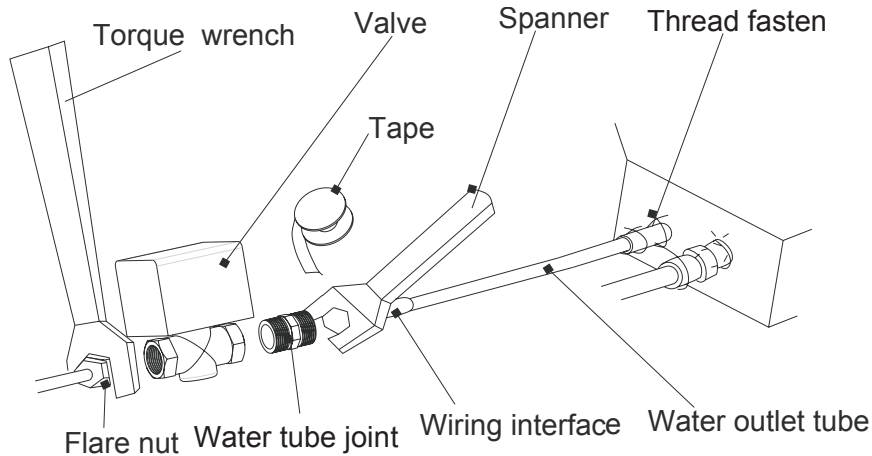

Fig.16
- (1) The installation of the motorized valve should be done according as Fig.16. Firstly connect one end of the tube joint with the water inlet tube of the unit, then connect the other end with the motorized valve, and lastly connect the motorized valve with the flare nut . During the installation, both the torque wrench and the spanner should be used and the moment of torque should be within 90 N.m. Besides, a secure connection should be guaranteed.